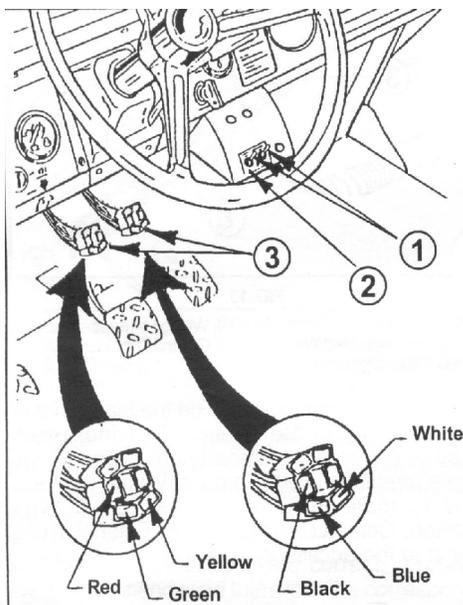

FIG. 10
5. Affix **SPRAY BOOM CONTROL** Decal around lower left holes of Switch Bracket as per FIG. 10.